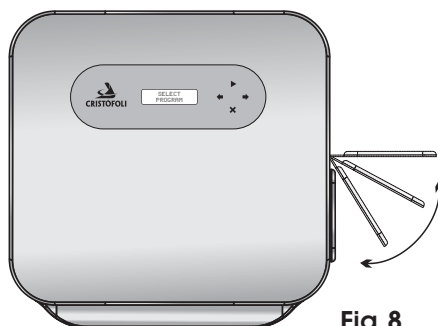

Fig.8
- b► Open the door of the autoclave by pushing the handle upwards and pulling it (Fig. 8).